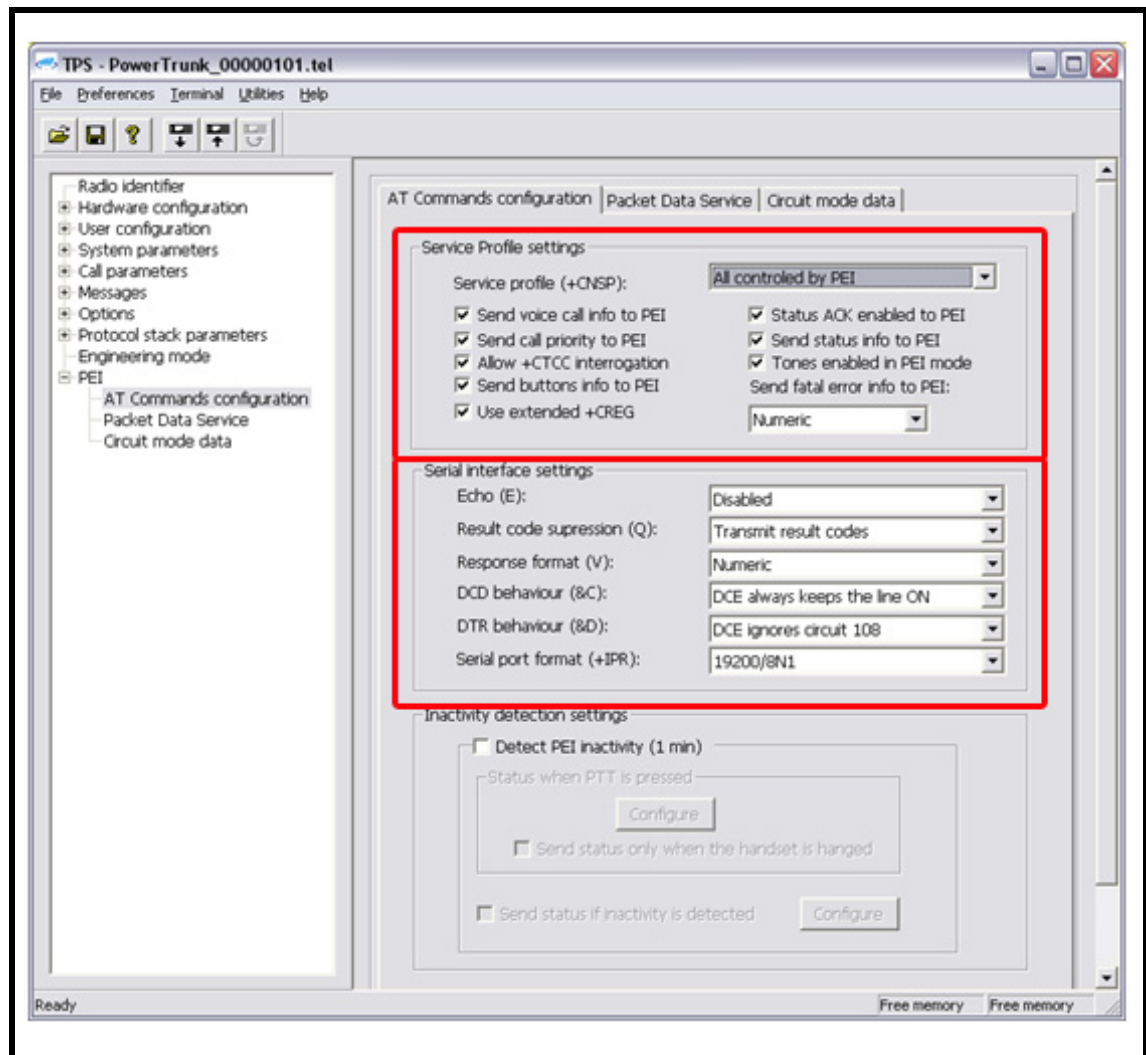

FIGURE 4. MDT-400 Serial Port Setup
- a. Service Profile settings fields, configure all fields the match Figure 4.
- b. Serial Interface settings fields, configure all fields to match Figure 4.